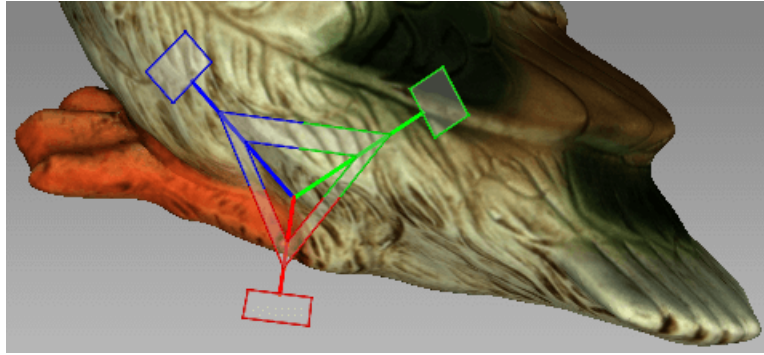

Figure 154: Scaling control
- Drag the origin of the control (Figure 154) or either of its round ends in the *3D View* window.